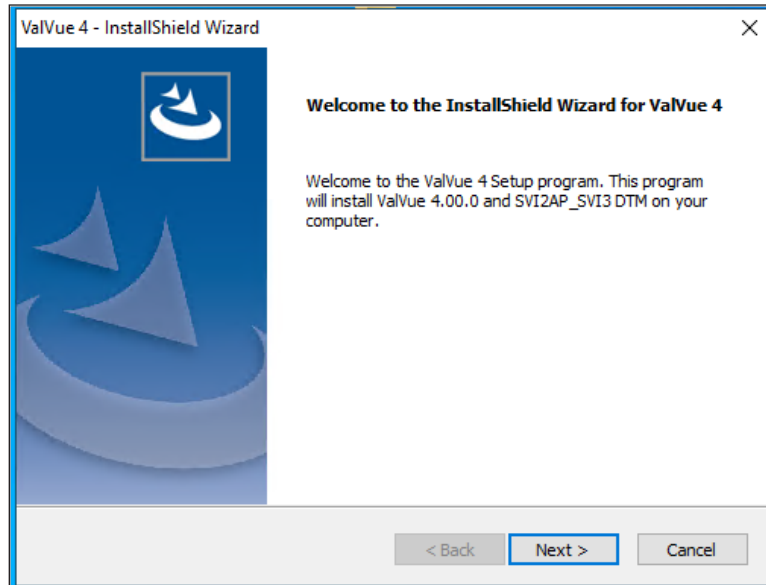

Figure 4 - ValVue Install Welcome
3. Click **Install** and Figure 4 appears.